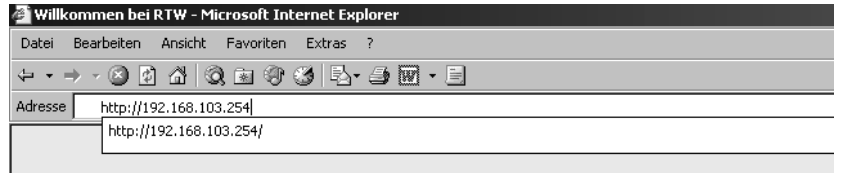

Fig. 8-11: Entering the IP address
1. Start your internet browser and enter `http://192.168.103.254` in the address field (see Fig. 8-11) followed by the hit of the return (Enter) key.